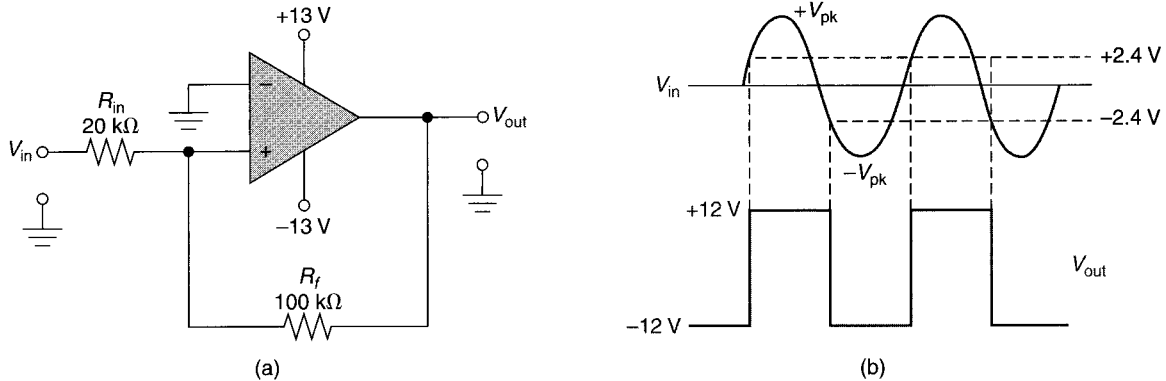
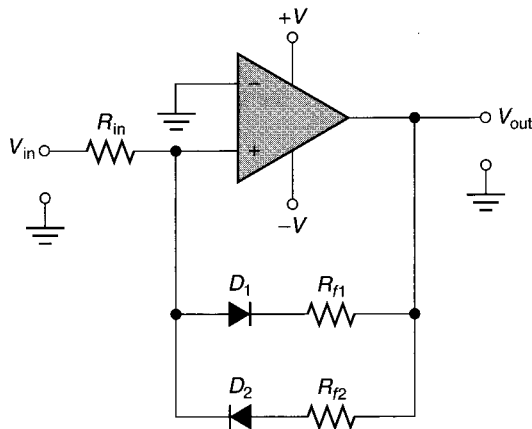

FIGURE 19.24
FIGURE 19.25 A noninverting Schmitt trigger designed for unequal UTP and LTP values.
Determine the UTP and LTP values for the circuit shown in Figure 19.24. Also, verify that the output changes states when the UTP and LTP values are exceeded.
A noninverting Schmitt trigger like the one in Figure 19.24 has values of  $R_f = 33 \text{ k}\Omega$  and  $R_{in} = 11 \text{ k}\Omega$ . Determine the UTP and LTP values for the circuit.
The noninverting Schmitt trigger in Figure 19.24 is restricted because the magnitudes of the UTP and the LTP must be equal. For example, the UTP is +2.4 V, so the LTP must be -2.4 V. If the UTP were 4 V, the LTP would have to be -4 V. However, the noninverting Schmitt trigger can be modified so that the magnitudes of the UTP and the LTP are not equal. A circuit that contains this modification is shown in Figure 19.25.
6. Explain the operation of the noninverting Schmitt trigger in Figure 19.25.